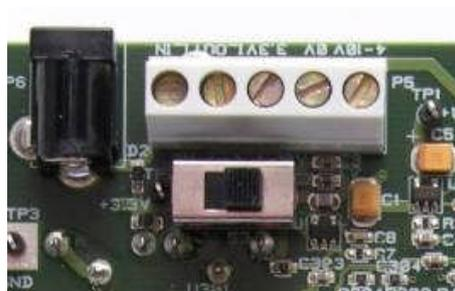

Figure 4. SmartRF04EB Power Switch, Power On
1. Turn off the SmartRF04EB power by moving the power switch shown in Figure 4 to the left position.
7. Turn on the power on the SmartRF04EB (see Figure 4).